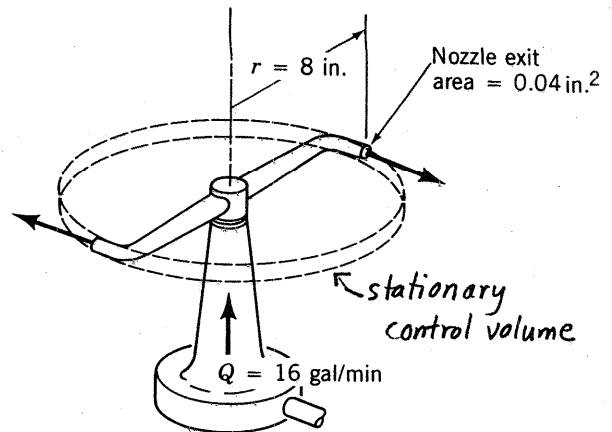

FIGURE P5.68
**5.68** Water enters a rotating lawn sprinkler through its base at the steady rate of 16 gal/min as shown in Fig. P5.68. The exit cross section area of each of the two nozzles is 0.04 in.2 and the flow leaving each nozzle is tangential. The radius from the axis of rotation to the centerline of each nozzle is 8 in. (a) Determine the resisting torque required to hold the sprinkler head stationary. (b) Determine the resisting torque associated with the sprinkler rotating with a constant speed of 500 rev/min. (c) Determine the angular velocity of the sprinkler if no resisting torque is applied.